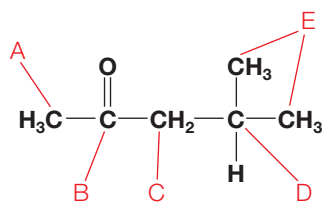

Figure 9.6 ◀
There are six carbon atoms in 4-methylpentan-2-one but only five peaks in the carbon-13 NMR spectrum. The reason is shown in Figure 9.6. The carbon atoms of two of the methyl groups (E) in the molecule are in exactly the same environment, so they give rise to only one peak. The other four carbon atoms, including the carbon atom in the third methyl group (A), are in slightly different environments and give rise to separate peaks.